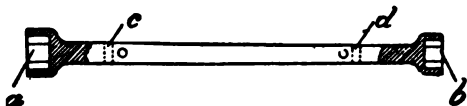
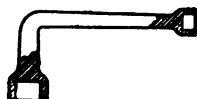

FIG. 122.—BOX-SPANNER WHICH CAN BE MADE BY ANY BLACKSMITH.
FIG. 123.—CURVED BOX-SPANNER WHICH A BLACKSMITH CAN MAKE.
are the (7) *box-spanners*, since those provided by the manufacturer do not always fit every emergency. When you have to call upon your friend the repair-man for some adjustment, observe whether he uses your spanner or his own. If he has trouble with yours, get him to forge you a set which should include several long, straight ones, to take a different-size nut at each end (*a* and *b*, Fig. 122), and with a hole at each end (*c* and *d*) for the bar. Another useful shape for getting at nuts which can not be reached by long spanner is shown in Fig. 123. The ideal box-spanner is made of steel tubing, but the local blacksmith will not make as